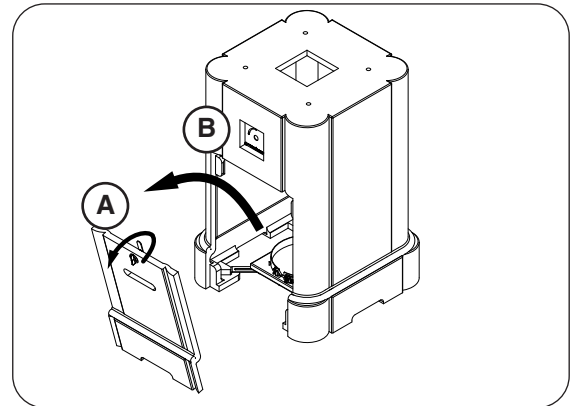

Fig. 18-2 Remove storage door
2. Remove the storage door by first turning the door handle counter-clockwise, then carefully pulling the door outward (see Fig. 18-2). Store in a safe location.